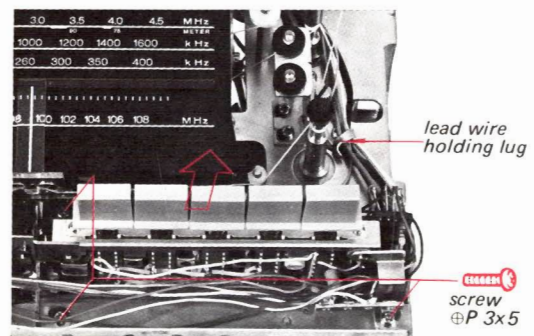

Fig. 2-12
4. Remove the three screws shown in Fig. 2-12.
7. Slide off the cp/i-f circuit board in the direction shown by the arrow in Fig. 2-12.